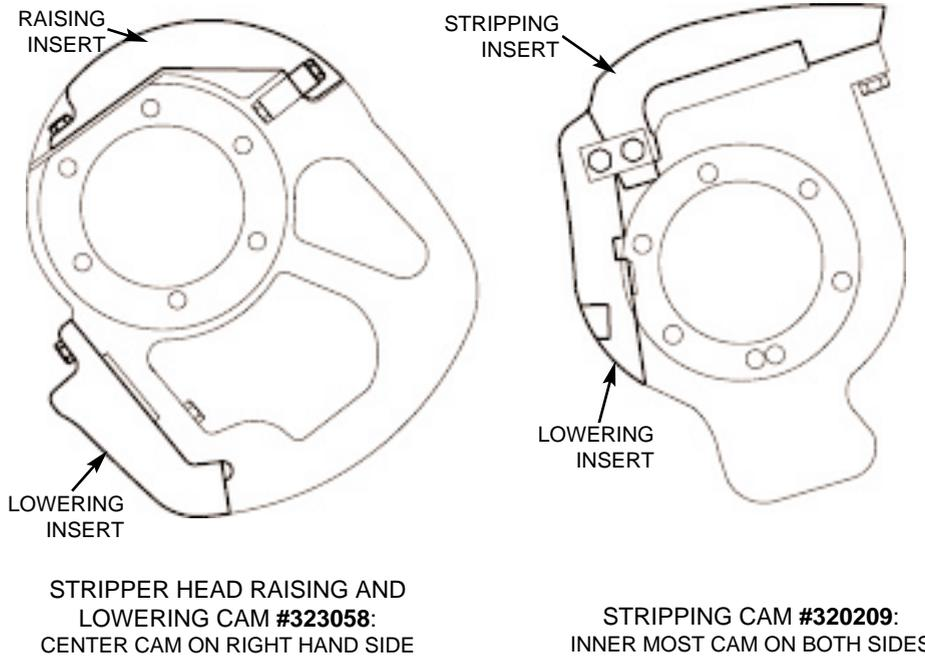

Figure 4.11 CAM INSERTS.
- 4.1.4 Install stripping cam insert # **320209** on each side of the machine and one stripper head raising cam insert # **323058** on the right side of the machine (see figure 4.11).